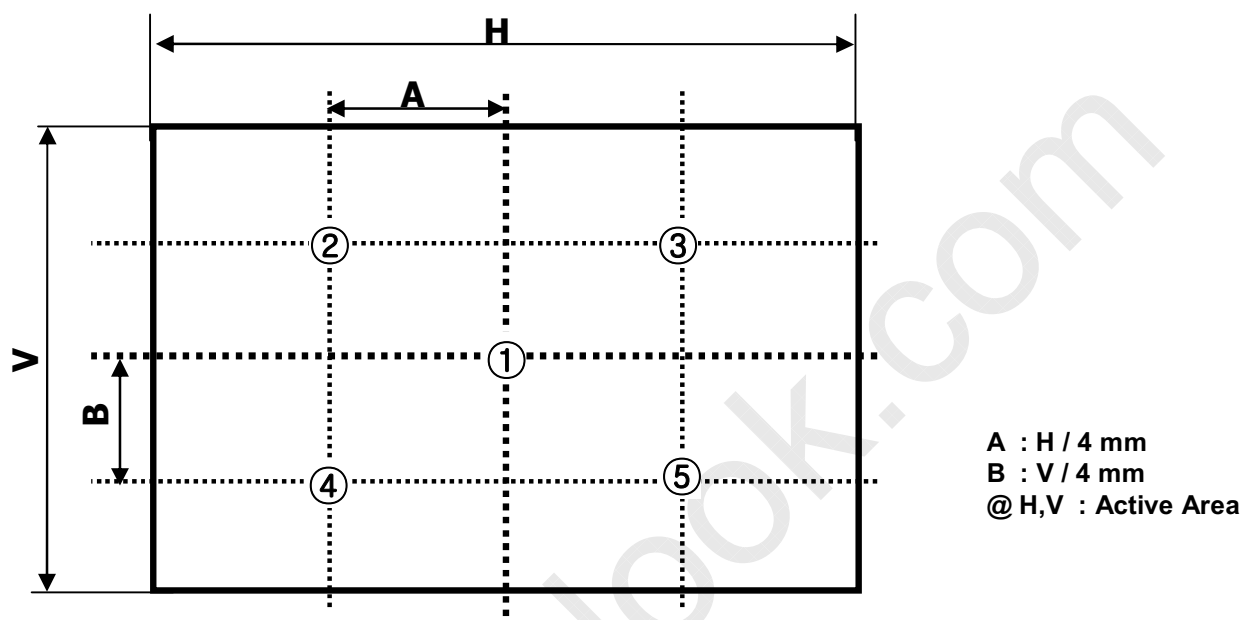

FIG. 2 5 Points for Luminance Measure
- Surface luminance are determined after the unit has been 'ON' and 1Hour after lighting the backlight in a dark environment at  $25 \pm 2^\circ\text{C}$ . Surface luminance is the luminance value at center 1-point across the LCD surface 50cm from the surface with all pixels displaying white. For more information see the FIG. 2.
For more information, see the FIG. 2.